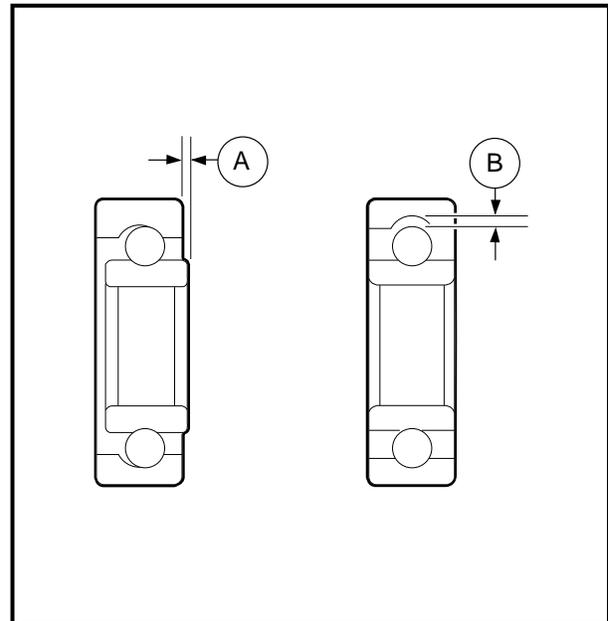

Figure 15-13 Bearing
1. Using a clean cloth, wipe the carbon dust off the bearing. Inspect the bearing by spinning it by hand and checking for both axial (A) and radial (B) play (**Figure 15-13, Page 15-8**).